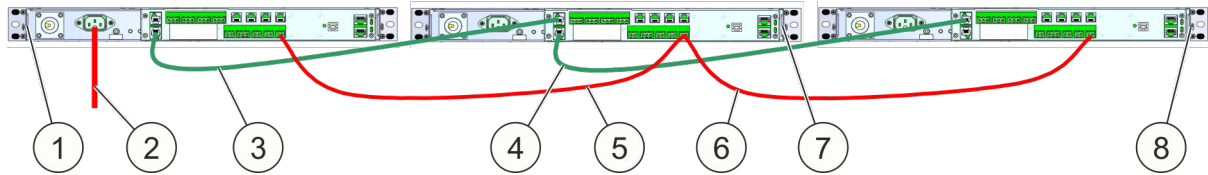

Fig. 58: Energy supply and data line
1. ➤ Connect the mains supply (Fig. 58/2) of 100 – 240 V/AC to the Master (Fig. 58/1).
2. ➤ Establish the power supply (Fig. 58/5) between Master and first Slave (Fig. 58/7). See also ↪ Chapter 5.3.7 “Power supply” on page 34.
3. ➤ Establish the power supply (Fig. 58/6) between first Slave and next Slave (Fig. 58/8).
5. ➤ Connect the *CAN bus connecting cable (Master/Slave)* (Fig. 58/3) between Master and first Slave.
6. → Connect the *CAN bus connecting cable (Master/Slave)* (Fig. 58/4) between first Slave and next Slave.